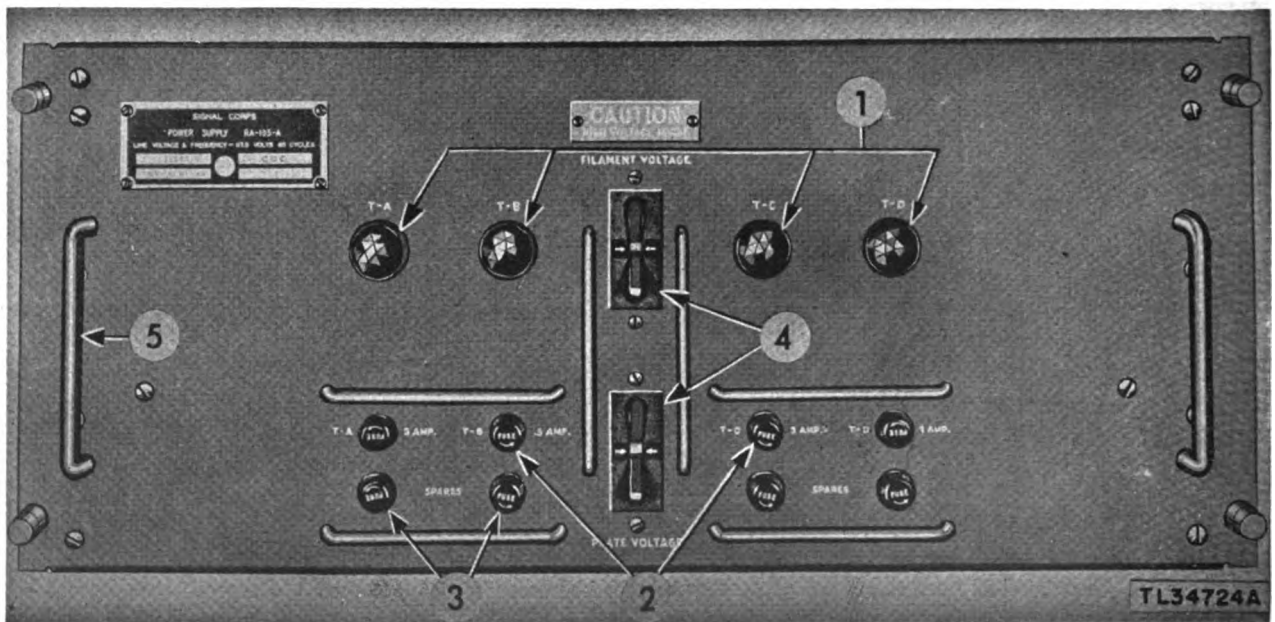

Figure 31. Power Supply RA-105-A—front view.
(3) Do not twist the plate clip on the high-voltage rectifier tubes. The metal-to-glass seal is easily broken.
(4) Be sure the set is dead before starting work. Throw both switches on the front panel of the power supply to the OFF position (fig. 31).
ITC. FRONT OF THE CHASSIS (fig. 31).